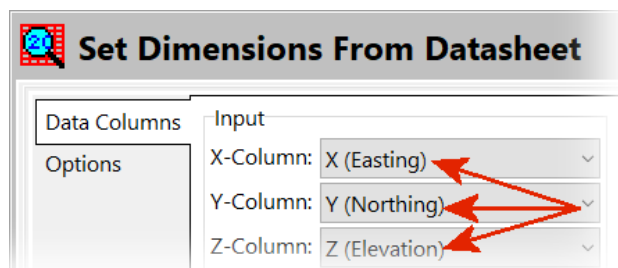

Figure 5
- Set the X, Y, and Z-Columns to the appropriate columns within your *Datasheet* (Figure 5).